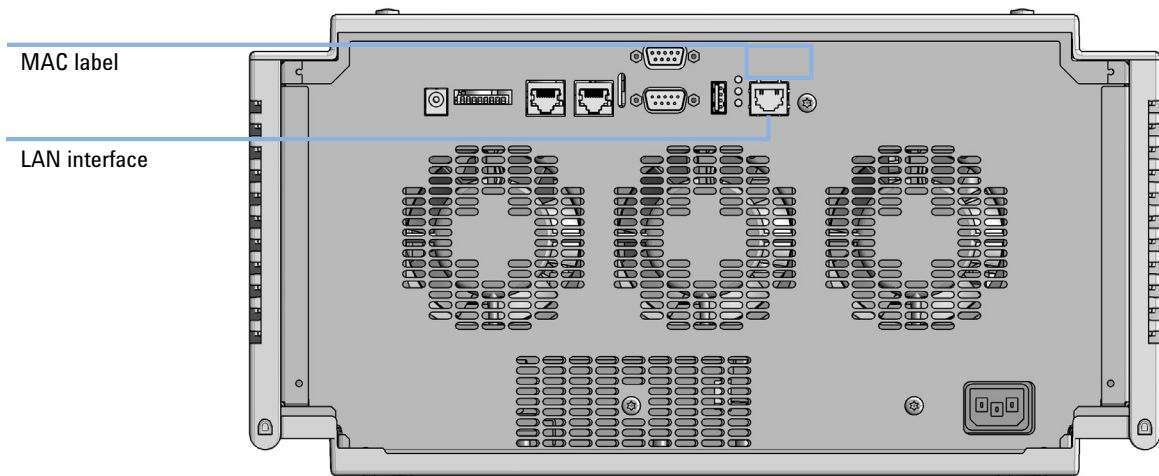

Figure 27 Location of LAN interface and MAC label
- 1 Note the MAC (Media Access Control) address for further reference. The MAC or hardware address of the LAN interfaces is a world wide unique identifier. No other network device will have the same hardware address. The MAC address can be found on a label at the rear of the module (see Figure 27 on page 262).
- 2 Connect the instrument's LAN interface (see Figure 27 on page 262) to